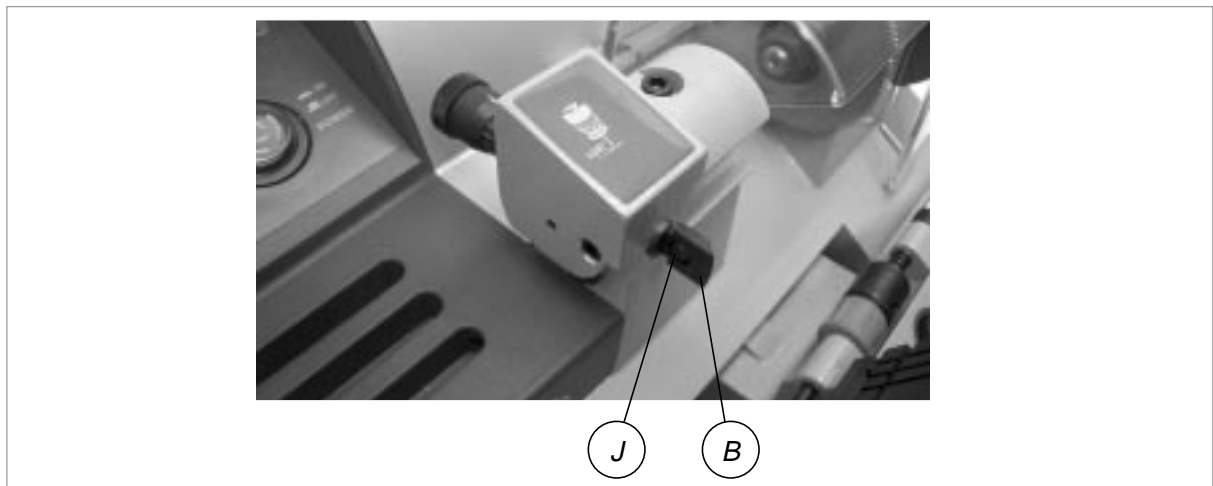

Fig. 22
- 2) Loosen and remove the screw (J) and remove the tracer point (B) (fig.22).
- 3) Place the new tracer point in position and fix with the screw (J).